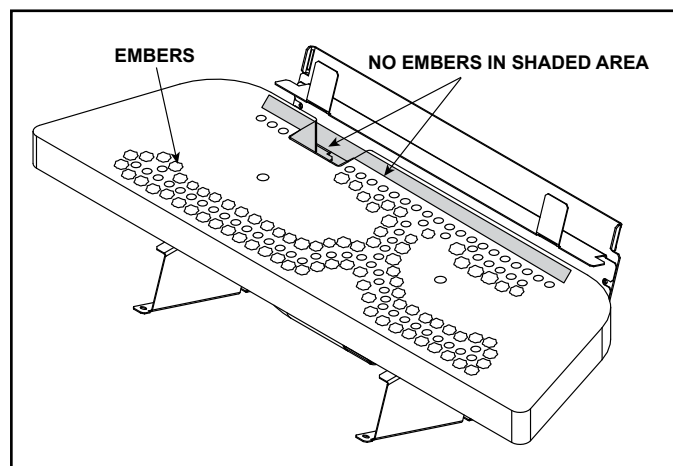

Figure 11.4 Placement of Embers
- Embers may only be placed in areas as shown in Figure 11.4.